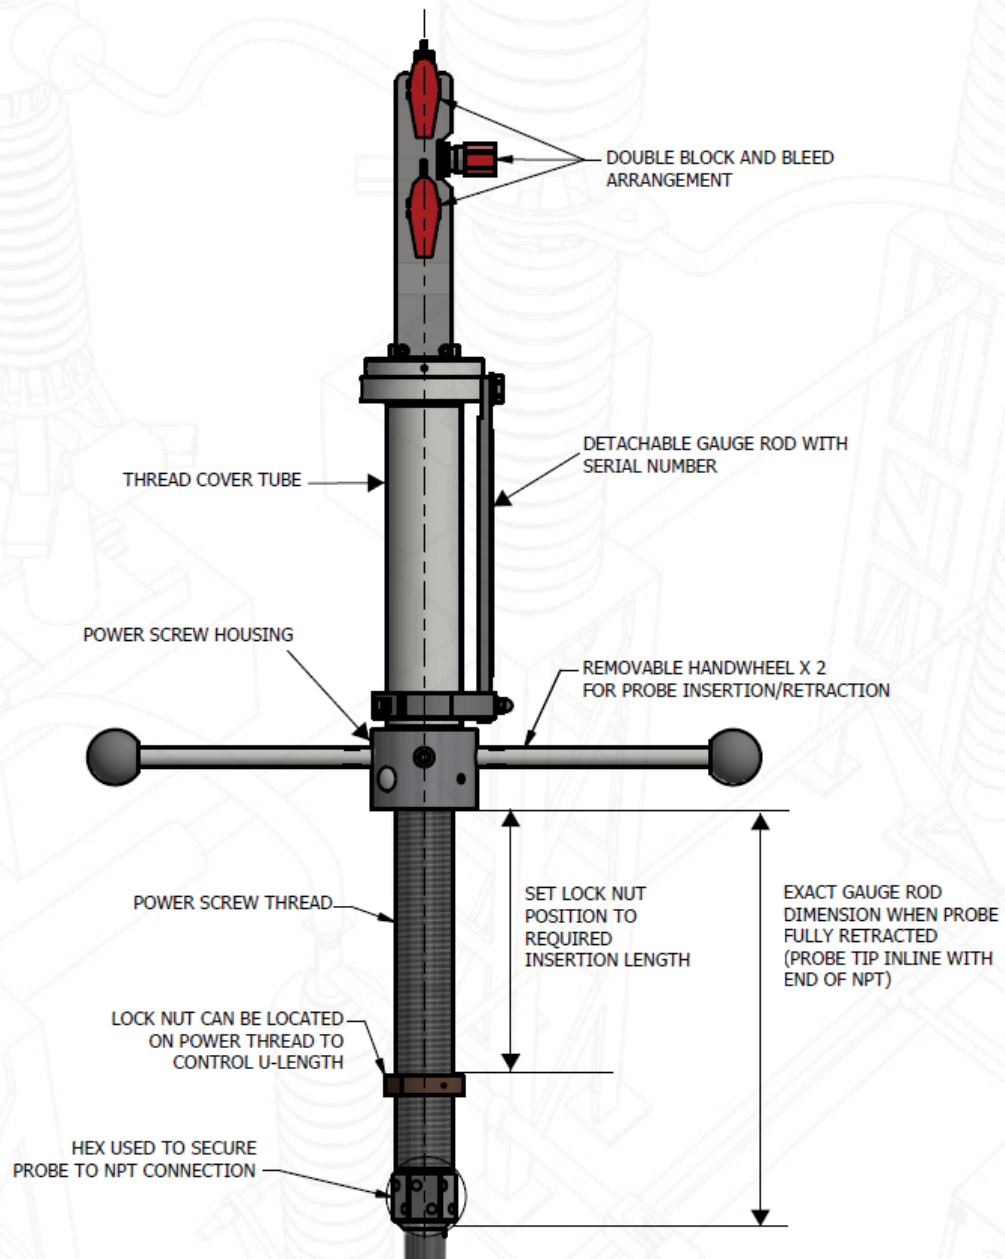

Figure 1: NPT Retractable Probe
IMPORTANT: SECURE PROBE ASSEMBLY IN PLACE ONCE INSTALLED. PREFERABLY AT THE HEX (REFER TO FIGURE 1) TO ENSURE THE NPT CONNECTION DOES NOT MOVE WHEN PROBE IS RETRACTED
4. Make sure the probe is in the **"fully"** retracted position, ie the probe tip is exactly level/flush to the bottom of the NPT connection. (The probes are normally shipped at or near this condition) Make a check measurement of the dimension between the bottom of the hex and the underside of the power screw housing (See Fig. 1) This dimension should tie up with the documentation provided with the probe and with the gauge rod attached to the probe.
8. Continue rotating the thread cover tube until, **and only until**, the gauge rod just fits between the end of the hex and the underside of the power screw nut. See fig 1.